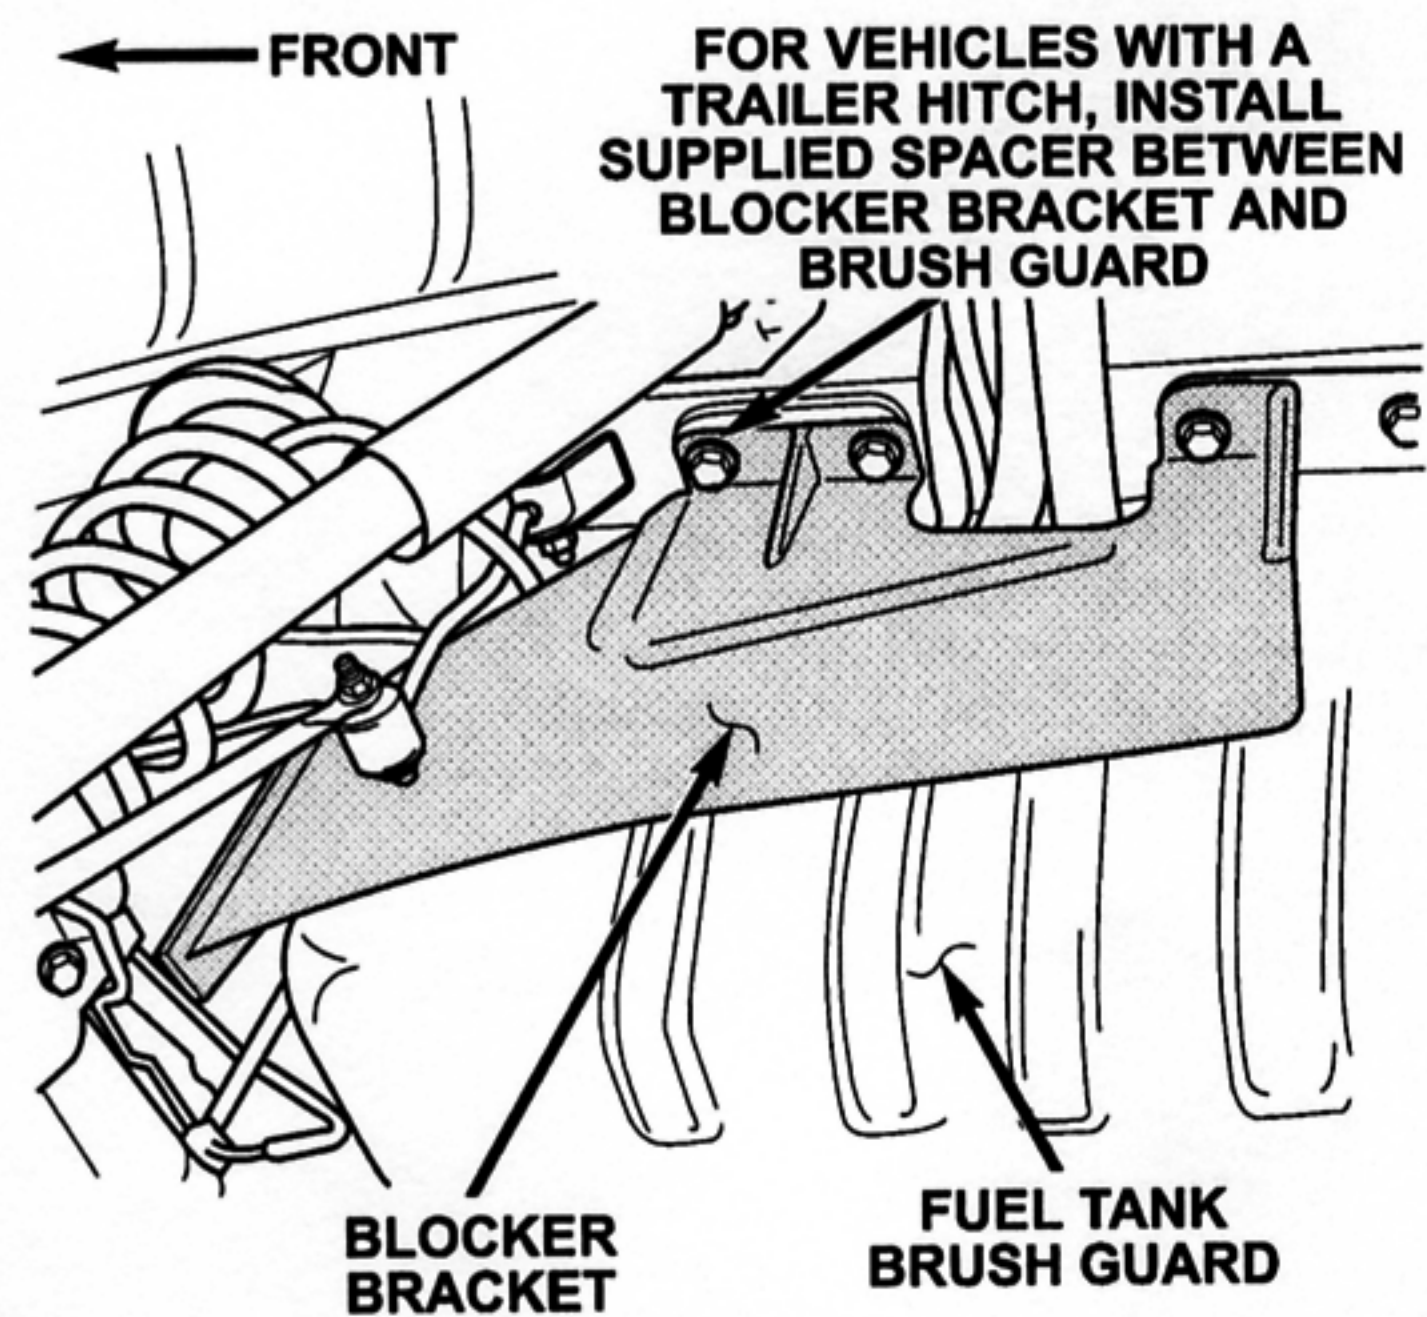

Figure 5
12. **For vehicles equipped with a trailer hitch,** tighten the two (2) rear-most trailer hitch bolts to 65 ft-lbs (88 N·m).
13. Install the fuel tank blocker bracket adjacent to the left side of the fuel tank brush guard (Figure 5).
14. Position the blocker bracket as far to the right as possible (next to the brush guard) and then install the fuel tank brush guard/trailer hitch mounting bolts (Figure 5). Using a 12 inch extension, tighten the bolts to 65 ft-lbs (88 N·m).